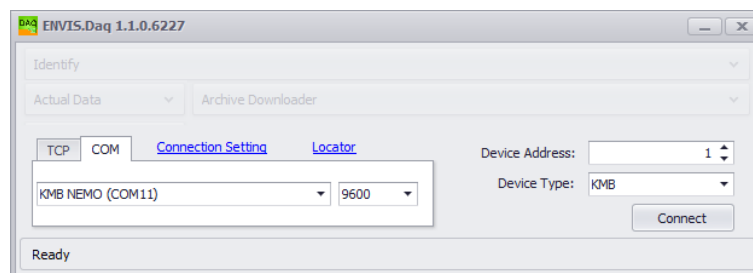

Figure 3: Start screen of ENVIS.Daq
2. Open the main window (Figure 3).